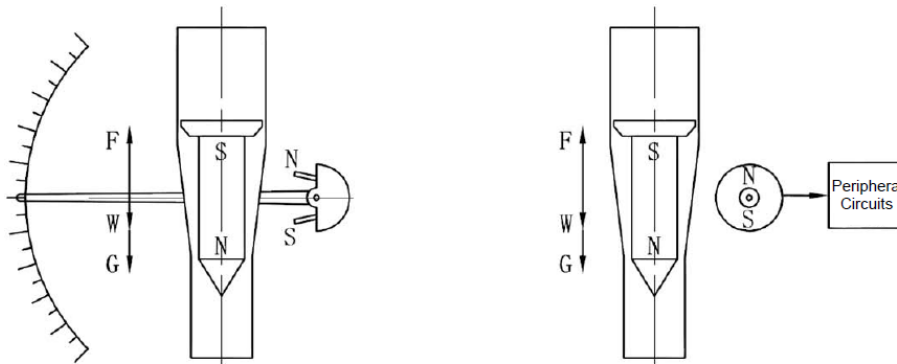

Figure 2 Operating Principle
2.1 Main product structure - Figure 2
2.2 Operating Principle Figure 2